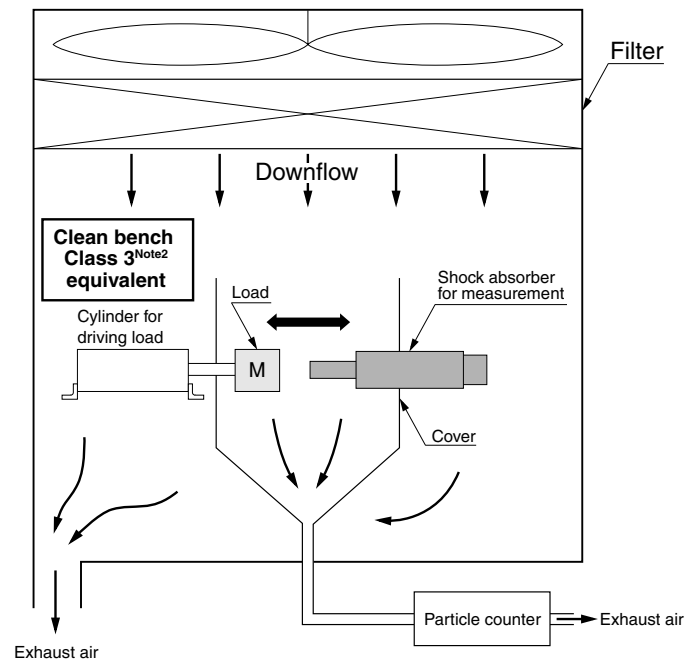

Figure 1
1. Measure particles in the clean bench (Figure 1) without activating the measurement use shock absorber and load driving cylinder in the clean bench (to measure the background value).^{Note}